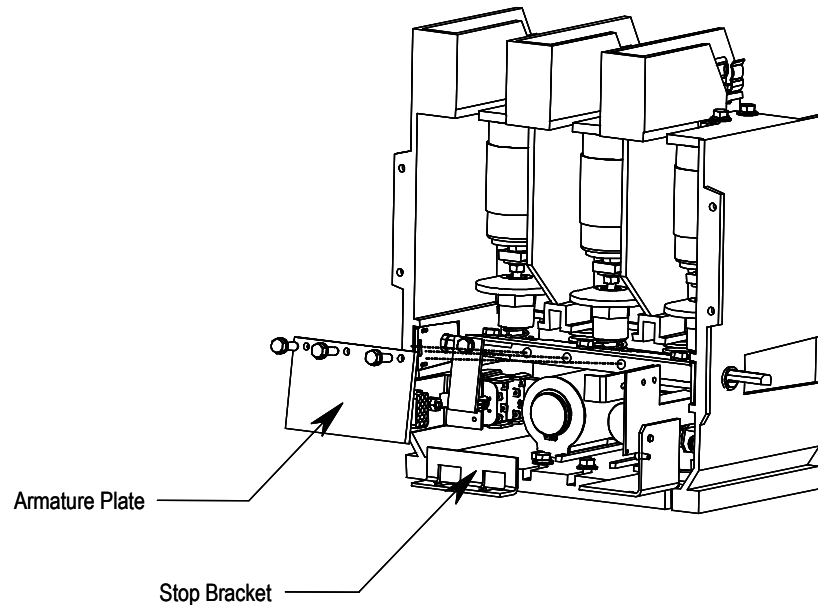

Figure 4.19 – Access to Mechanical Latch
2. Remove the armature plate and front stop as shown in Figure 4.19.